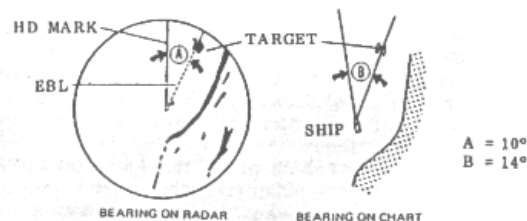

Fig.12 Relative Bearing Alignment
- Adjust the heading mark key, moving to the left-hand side (aft direction) or to the right-hand side (fore direction). For the example in Fig.12, move the heading mark key to the left-hand side by about 2 marks for a correction of 4° error to the starboard side.